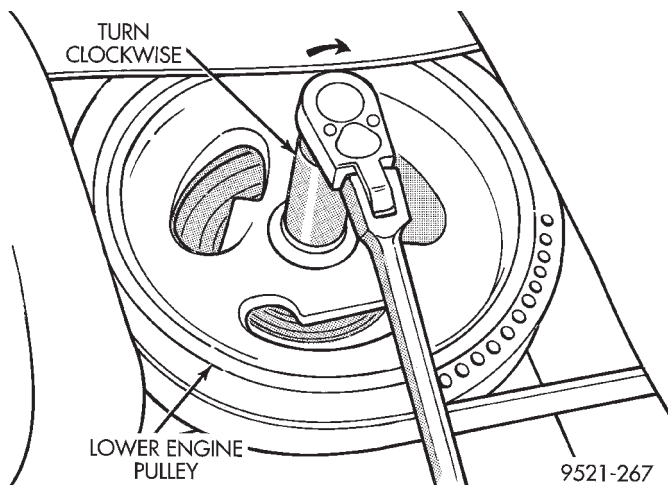
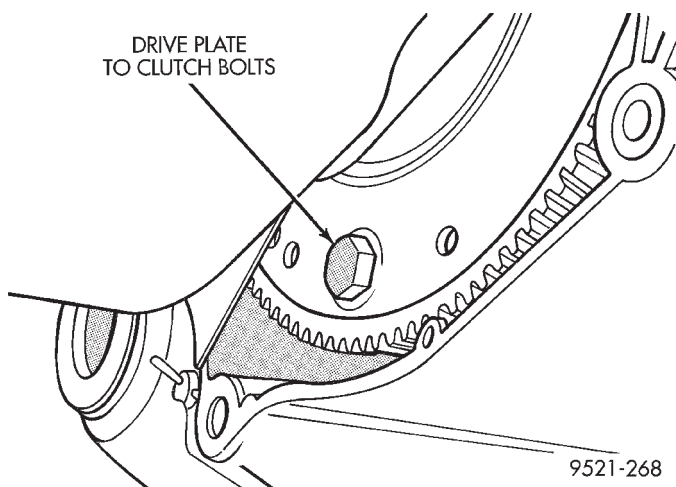

Fig. 36 Rotate Engine Clockwise
Fig. 37 Driveplate to Modular Clutch Bolts
(28) Rotate engine clockwise to gain access to driveplate clutch bolts (Fig. 36). Remove driveplate clutch bolts (Fig. 37).